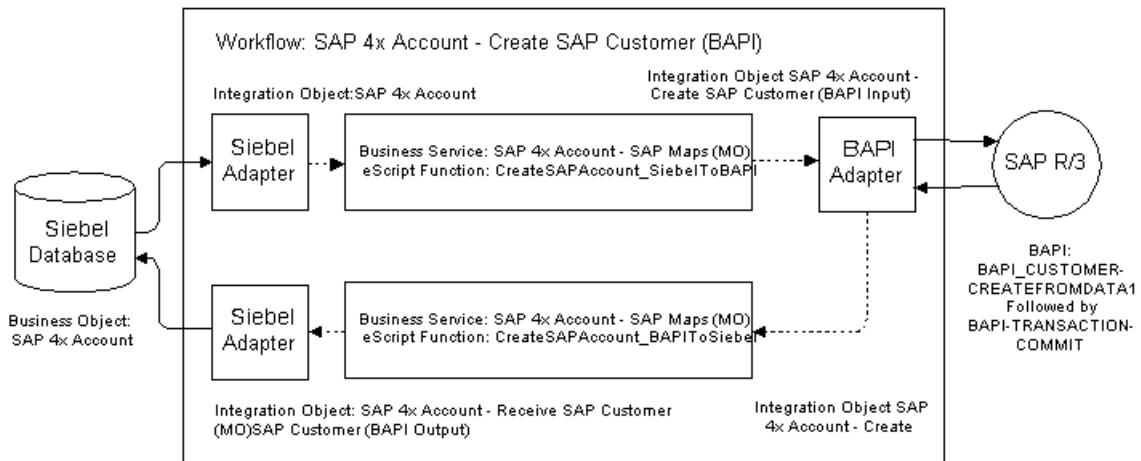

Figure 5. Business Data Flow Using BAPI Adapter
The first business data flow (Figure 5) performs an initial creation of the customer in SAP. This is done through a synchronous BAPI call to SAP. This call provides an immediate response with the customer ID from SAP. Figure 5 shows the details of the SAP 4x Account-Create SAP Customer (BAPI) workflow. In this workflow, a record from the Siebel Database is extracted by the Siebel Adapter, passed to the SAP 4x Account-SAP Maps (MO) business service, and then passed to the BAPI adapter. The BAPI adapter communicates with SAP R/3 using the BAPI_CUSTOMER-CREATEFROMDATA BAPI, followed by the BAPI_TRANSACTIONCOMMIT BAPI. SAP R/3 returns the record to the BAPI Adapter, which forwards it to the SAP 4x Account - SAP Maps (MO) business service, which then forwards it to the Siebel Adapter, which writes the record back to the Siebel Database.